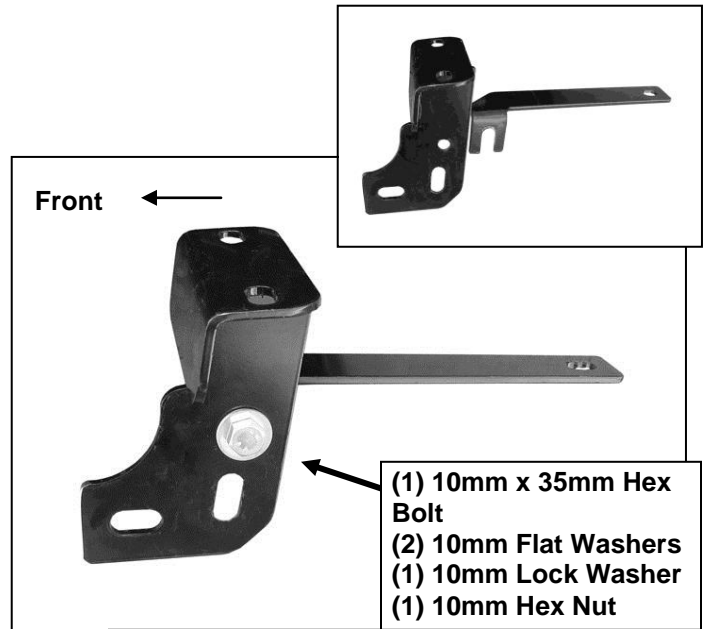

**Fig 1B**
- Starting at the underside of the front bumper, carefully remove the plastic splash guard. **NOTE:** Depending on the model of truck, the splash guard may be attached to the bottom of the truck with hex bolts and several two-piece plastic push-in clips, **(Figure 1A)**. Remove all hex bolts then locate the clips behind the bumper cover. Pry up on the center pin of the clip with a small flat blade screwdriver and remove the entire clip, **(Figure 1B)**. Pay close attention to the type and location of all factory hardware for reinstallation. The splash guard may also be attached to the bumper cover with rivets at the corners. Use wire cutters to remove the rivets. Once all fasteners have been removed, move splash guard to a clean stable work area.